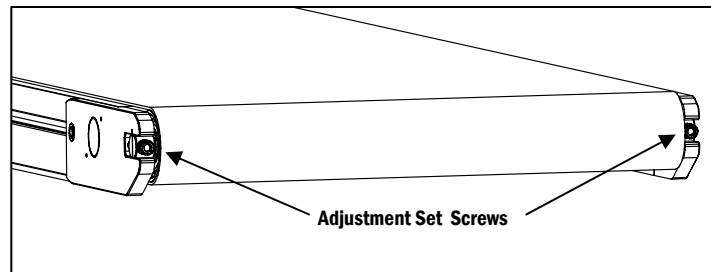

Figure 19
f. Replace the tail pulley that was set aside earlier by seating it into the forked tail plates of the Tension Release Tail Assembly. Make sure that tail pulley assembly is oriented correctly by ensuring the setscrew hex keys face out for belt tracking and tension adjustments (**Figure 19**).